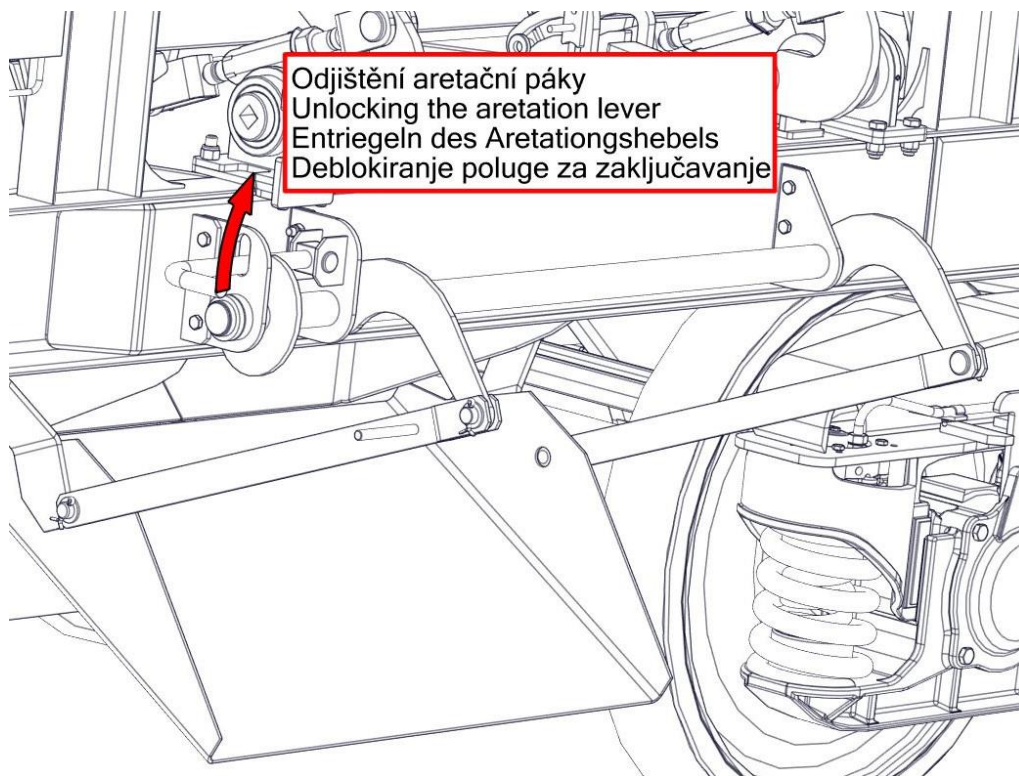
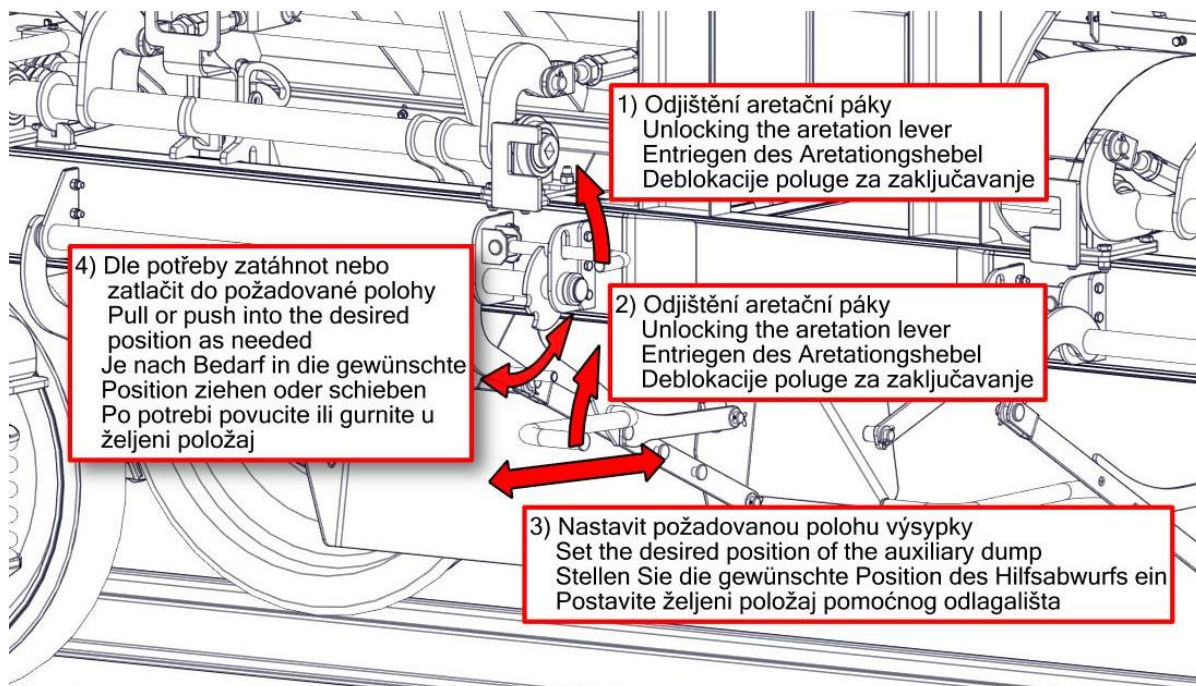

Fig. 8
Fig. 12
- Lift the shaft lever - Fig. 8
- Lift the shaft lever - Fig. 12 or Fig 8